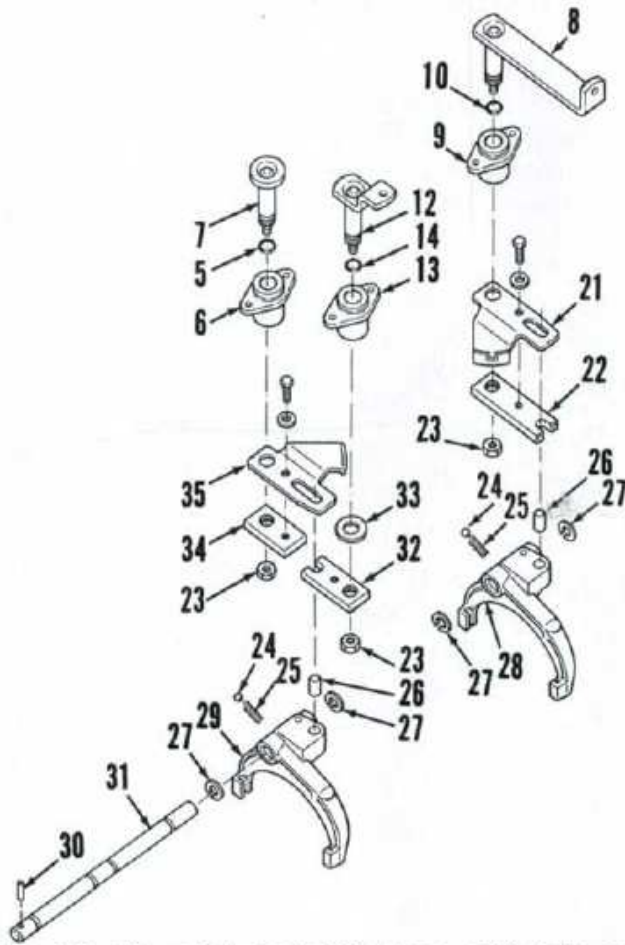

Fig. 112—View of typical shift levers, shift forks and interlocks used on synchromesh speed transmission.
To remove shift forks (28 and 29—Fig. 112), remove snap rings (27) from grooves in shift rail (31). Drive roll pin (30) from the rail. Push the shift rail forward and rotate rail about 1/2 turn to unseat detent balls from slots in rail. Move snap rings rearward on rail and continue moving rail forward. Cover shift fork (28) with a shop towel to prevent losing detent ball (24) and spring (25). Lift out shift fork (28). Remove shift fork (29) in same manner.